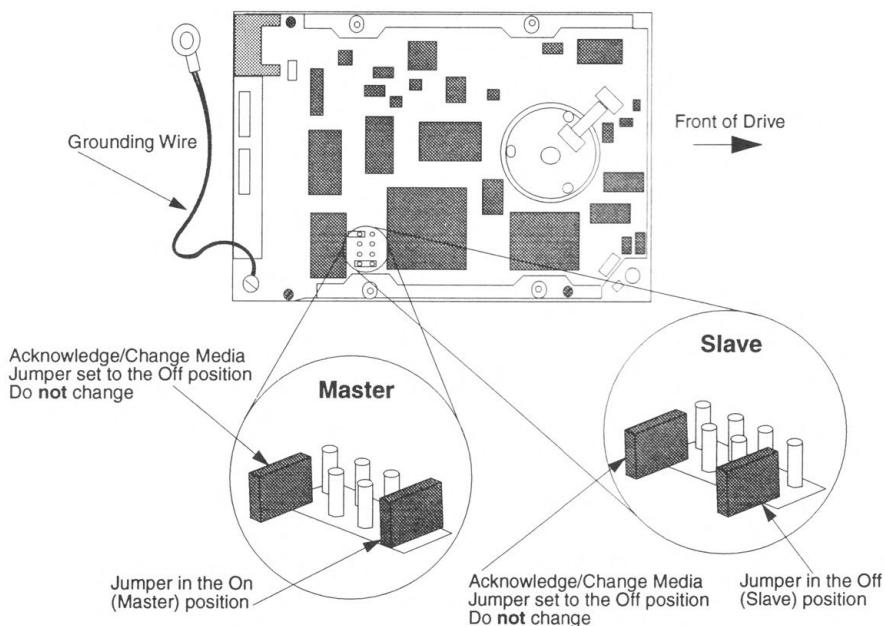

Figure 10. Jumper Positions on the EZ135 Drive
- Never connect two jumper pins in the same row—always connect pins in different rows (See Figure 10)
Manufacturers sometimes store an extra jumper on a single jumper pin. The Acknowledge/Change Media jumper shown in Figure 10 is stored this way on your EZ135 drive. Do not change the jumper setting of the Acknowledge/Change Media jumper. Depending on the date your drive was manufactured, the Acknowledge/Change Media jumper pins may not appear on your drive.